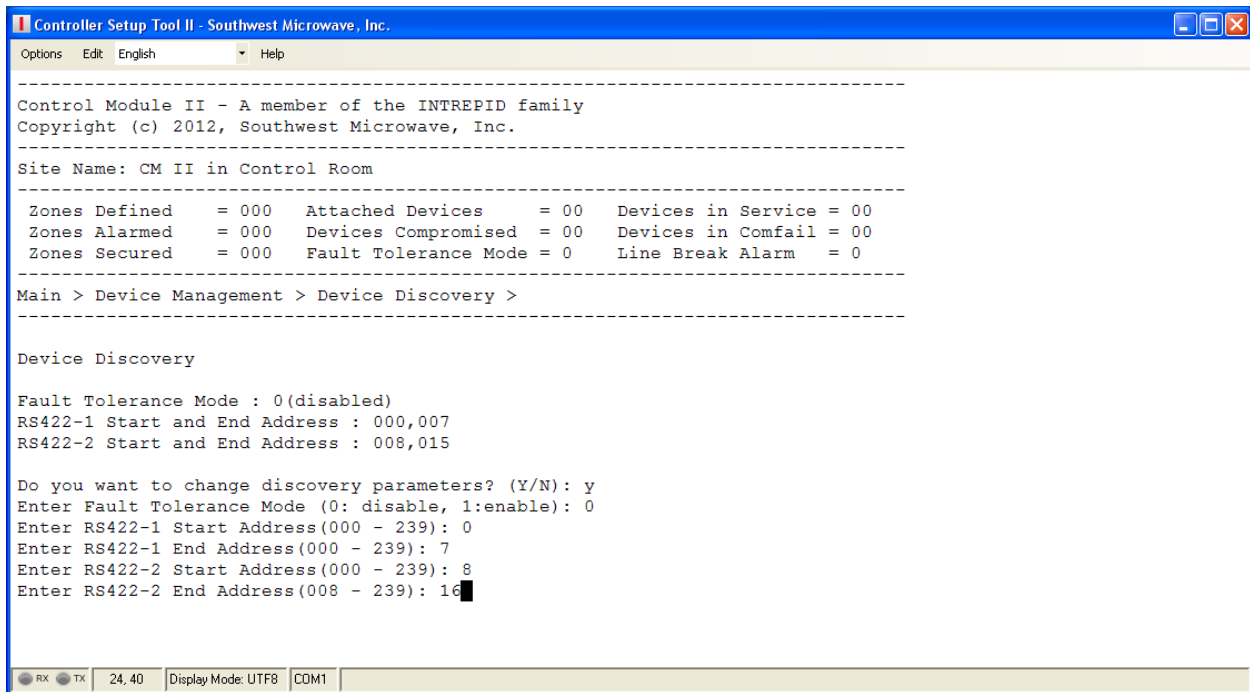

Figure 23 – Device Discovery Open Loop
With the Fault Tolerance Mode disabled (0) the next prompt will be to enter the start address of port RS422-1 to be polled. The next prompt will be to enter the end address of port RS422-1 to be polled. Enter the address and select Enter. The same will apply for port RS422-2 if it is being used as shown in Figure 23. Press enter to start the Discovery process. *Note: the more addresses entered the longer the discovery process will take.*